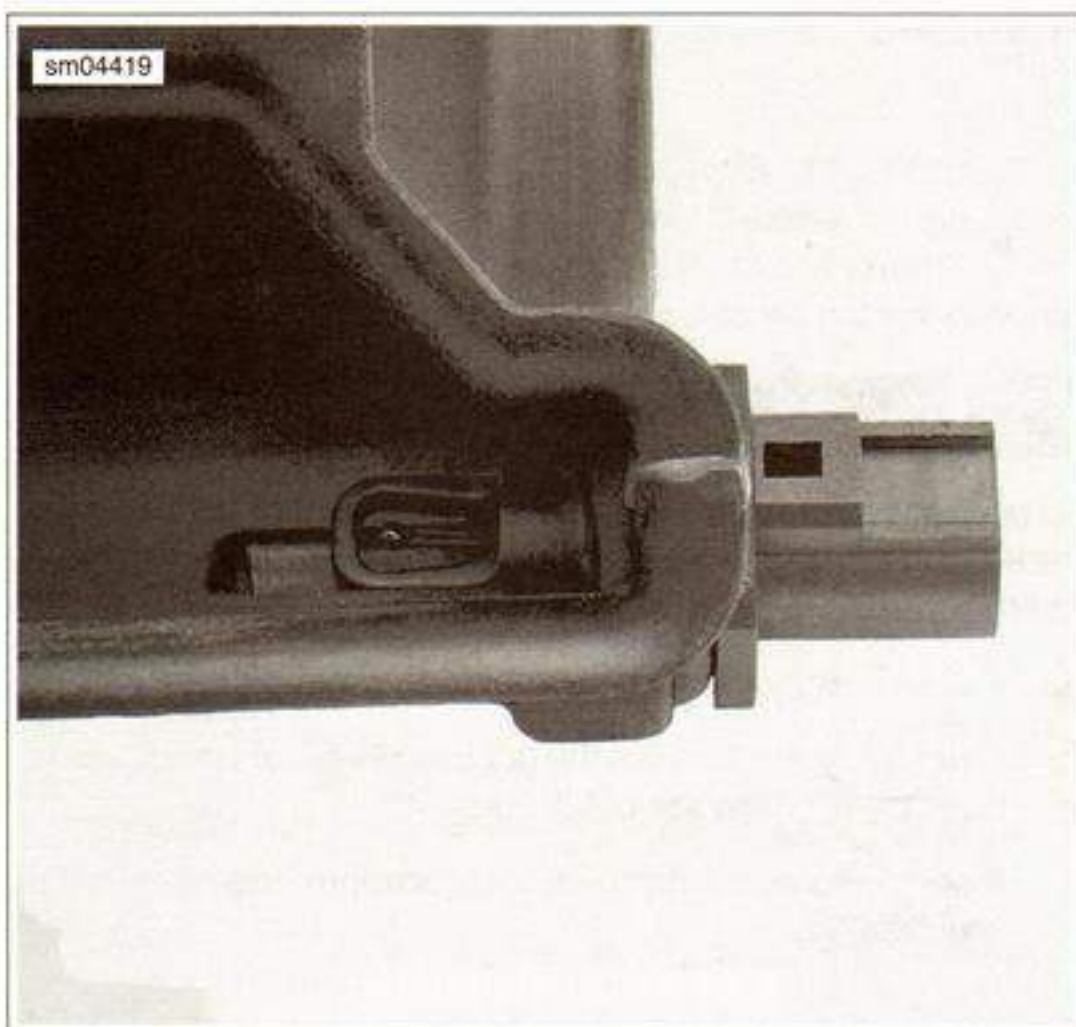

Figure 4-14. Intake Air Temperature (IAT) Sensor
2. See Figure 4-14. Push IAT sensor into grommet in ram air scoop.